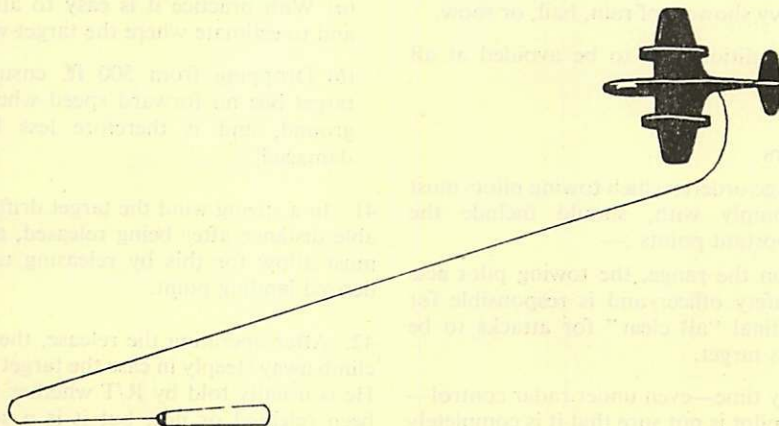

Fig. 7. Aircraft, Cable, and Target Layout for Full Snatch Take-Off
24. **Full Snatch Take-Off.** This method (Fig. 7) gives the shortest possible take-off run for both the aircraft and the target, but its use should be restricted to light sleeve targets, as the sudden strain on the cable would otherwise be excessive.